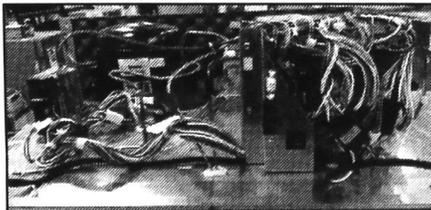

FIGURE 3
**NOTE:** Note the location of the foil tape on the back of the dog house (top unit cover) and remove or cut tape to remove dog house (top unit cover). Following removal of the dog house (top unit cover), the unit will look similar to *Figure 3*.